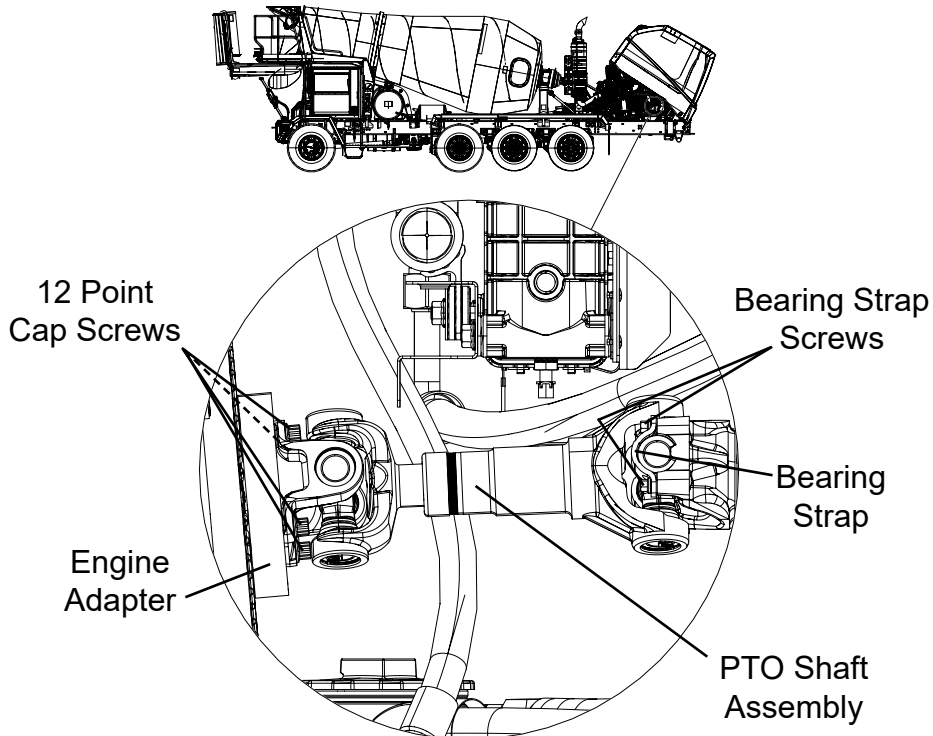

Figure 4
12. Install PTO shaft assembly (A000V411) between engine adapter and mixer pump input yoke, see Figure 4.
13. Install bearing strap kit (A000V413) to secure PTO shaft u-joint to mixer pump input yoke, see Figure 4. Final tighten strap screws to 32 ft. lbs.